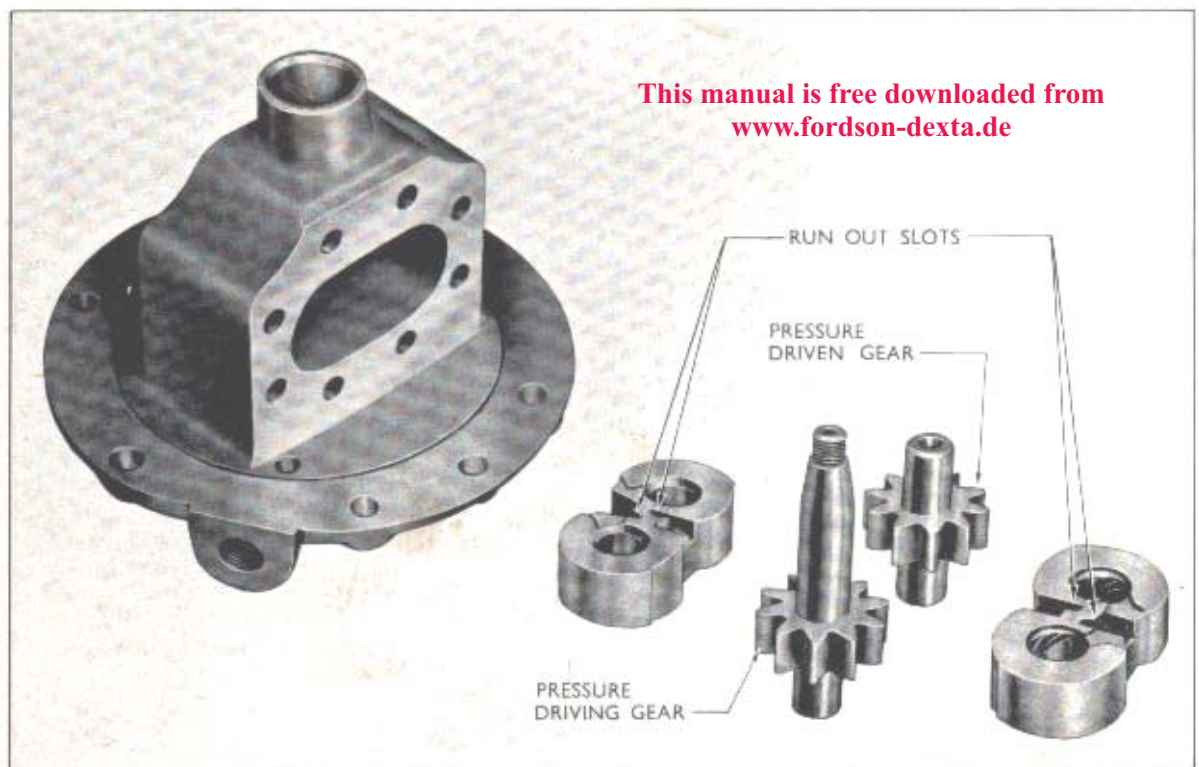

Fig. 42
Arrange the bearings and gears as shown in Fig. 42. In this position the right-hand (rear) bearing will have the small run-out slots from the oil ducts, at the **upper** end of the **left-hand** (high pressure) duct and the **lower** end of the **right-hand** (low pressure) duct.
1. With the right-hand (rear) bearing in the position shown in Fig. 42, i.e. with the plain side of the bearing downwards and the run-out from the bores to the right (i.e. low pressure side of pump) assemble the pump pressure driven gear to the further bore of the bearing.